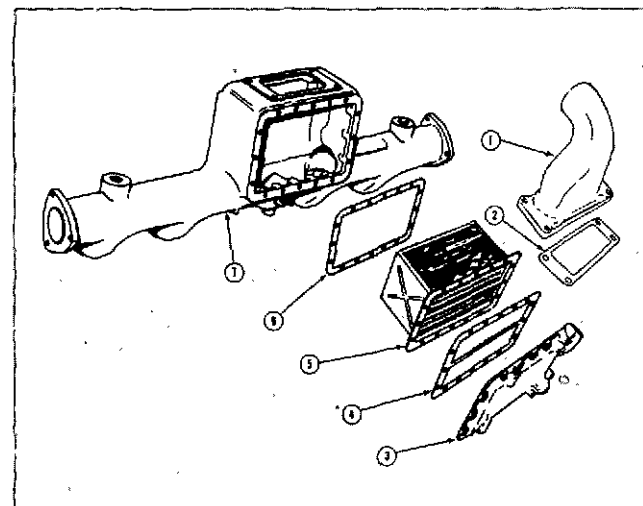

Fig. 8-9-1, V40819. Intake manifold with inter-cooler
1. Remove capscrews and lockwashers securing air connection (1, Fig. 8-9-1) to cooler housing (air intake manifold); lift off connection and discard gasket (2).
3. Remove capscrews, lockwashers and flatwashers securing element covers (3) to cooler housing; lift off covers and discard gaskets (4).
4. Remove stabilizing screws, lockwashers and locknuts securing element to cooler housing (air intake manifold). Remove element (5) from cooler housing (air intake manifold). Remove and discard gasket (6).
4. Install inner gasket (6, Fig. 8-9-1) over guide pins and next to manifold intercooler opening (1).
5. Carefully install intercooler (5) over guide pins into opening in intake manifold. Be careful not to damage fins on the cooler as it is inserted into manifold. Make sure intercooler goes all the way in and that the back side is resting on support pads in back side of intercooler opening in the intake manifold.
6. Install outer gasket (4) over the guide pins and next to intercooler. This gasket has two port sections which direct water circulation through cooler unit.
7. Install cover (3) over guide pins and against gasket. Install mounting capscrews, lockwashers and flatwashers starting each capscrew a few turns by hand and making sure that both gaskets, intercooler flange, and intercooler cover mounting holes are properly aligned with mounting holes in intake manifold. Remove and replace guide pins with mounting capscrews.